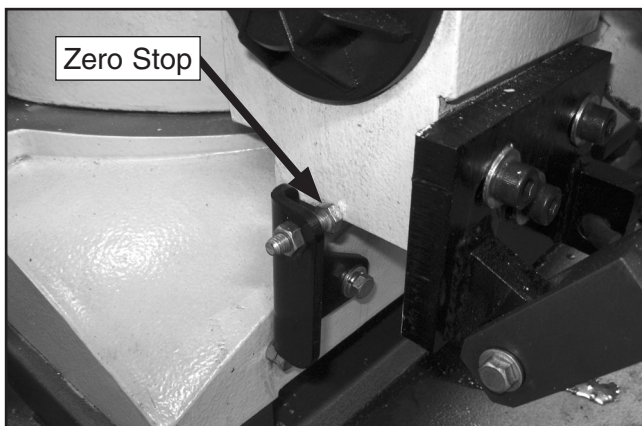

Figure 60. Zero degree swivel stop.
4. Observe the scale, and if the headstock is not at 0°, adjust the zero stop (**Figure 60**) so it will line up with the mark.